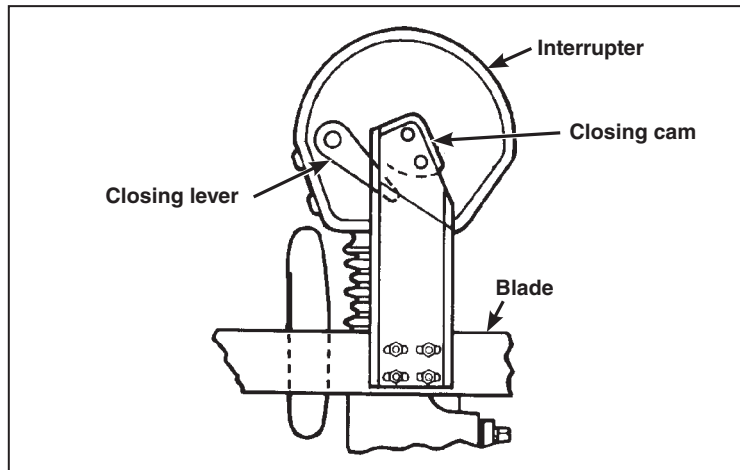

Figure 42. Blade assembly moving in closing direction.
- (b) As the blade assembly moves in the closing direction, each blade-closing cam must make positive engagement with its respective interrupter-closing lever. See Figure 42.